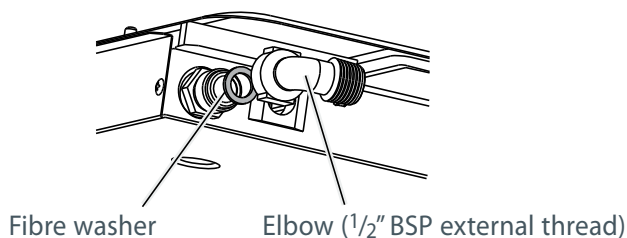

Fig.2 Gas connection to the cooktop (CG604 and CG905DWFC models)
- Ensure the fibre washer (supplied) is located between the elbow (supplied) and cooktop gas inlet (Fig.2). Failure to use this washer will cause the connection to leak. Tighten the floating nut to firm finger tight, plus an additional ¼ turn (90°).
- Flexible hose assemblies should be AS/NZS 1869 Class B or Class D certified. The thread connection shall be Rp ½" (ISO 7-1) female (for CG604 and CG905DWFC models) or male (for CG905DWAC models). See Figs. 2 and 3.